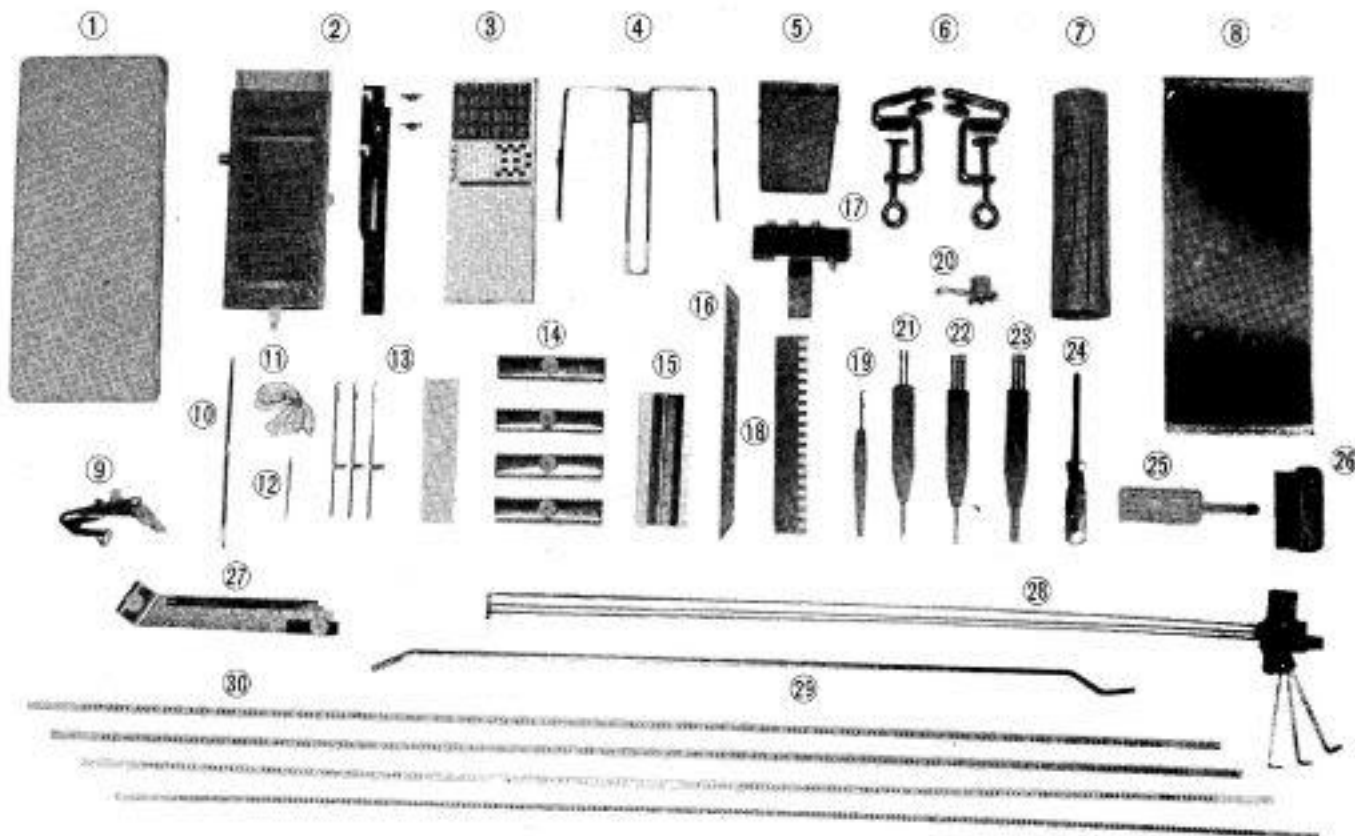
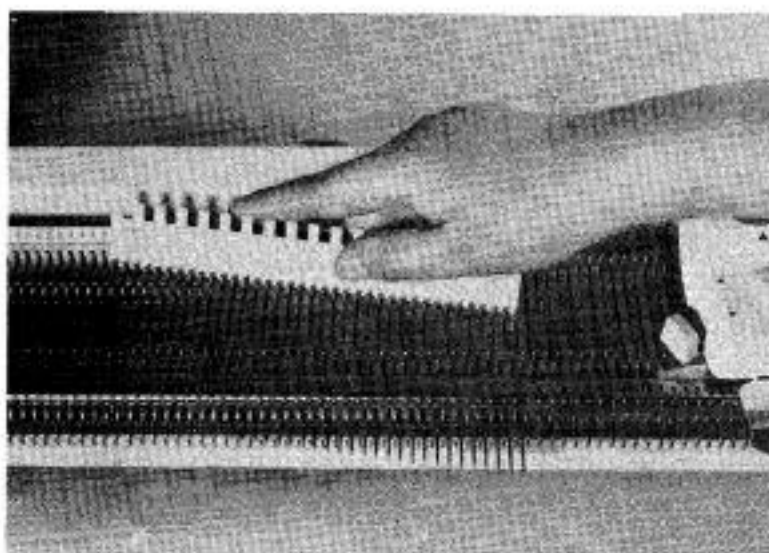
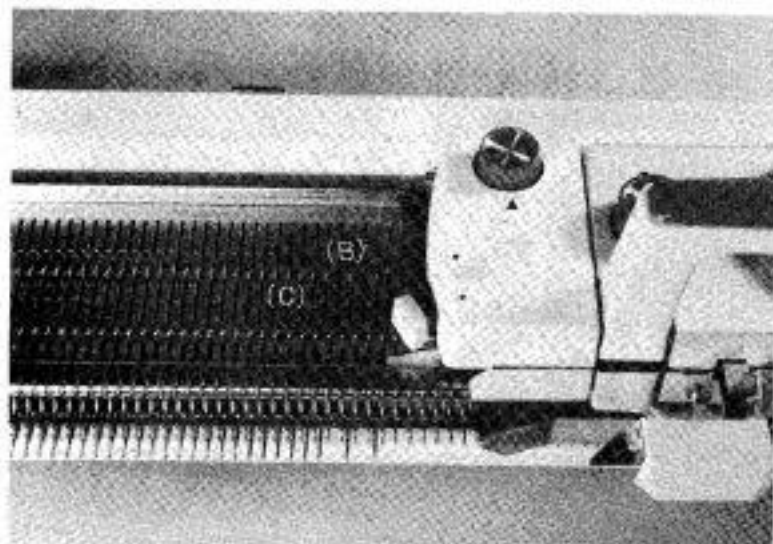

Fig. 4
Fig. 29
Fig. 30
g) Bring forward, using the straight edge of the Needle Selector Plate (see item 18 Fig. 4) the number of needles required as shown in Fig. 29— say 40 needles, aligning them in working position (C) as shown in Fig. 30.
h) Push back into Position (B) the second and fourth needles from the right. (Fig. 30)
- g) Bring forward, using the straight edge of the Needle Selector Plate number of needles required as shown in Fig. 29—say 40 needles, aligning them in Working Position (C) as shown in Fig. 30.
- h) Push back into Position (B) the second and fourth needles from the right. (Fig. 30)